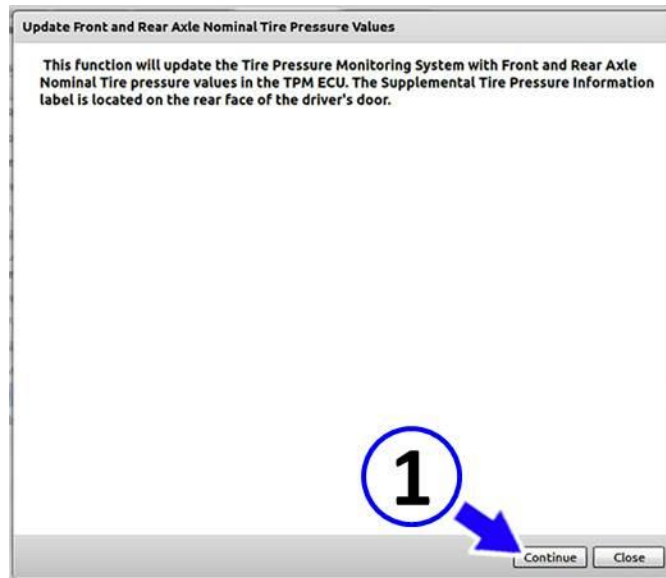

Fig. 3 Update Tire Pressure Values
4. The window shown in (Fig. 3) warns that the activated function allows the front and rear tires pressure values stored in the TPMS control unit to be updated. Press the "Continue" button (1) as shown in (Fig. 3).